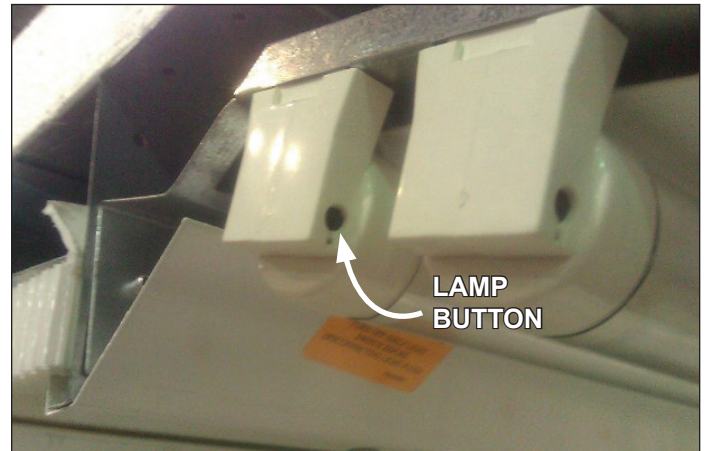

Fig. 13 Align new T-8 with plug button to secure
3. Push the new T-8 lamp into place on the lamp holder. When the T-8 is properly seated, the lamp button - which secures the T-8 to the lamp holder - will be clearly visible through the lamp button hole (Fig. 13).